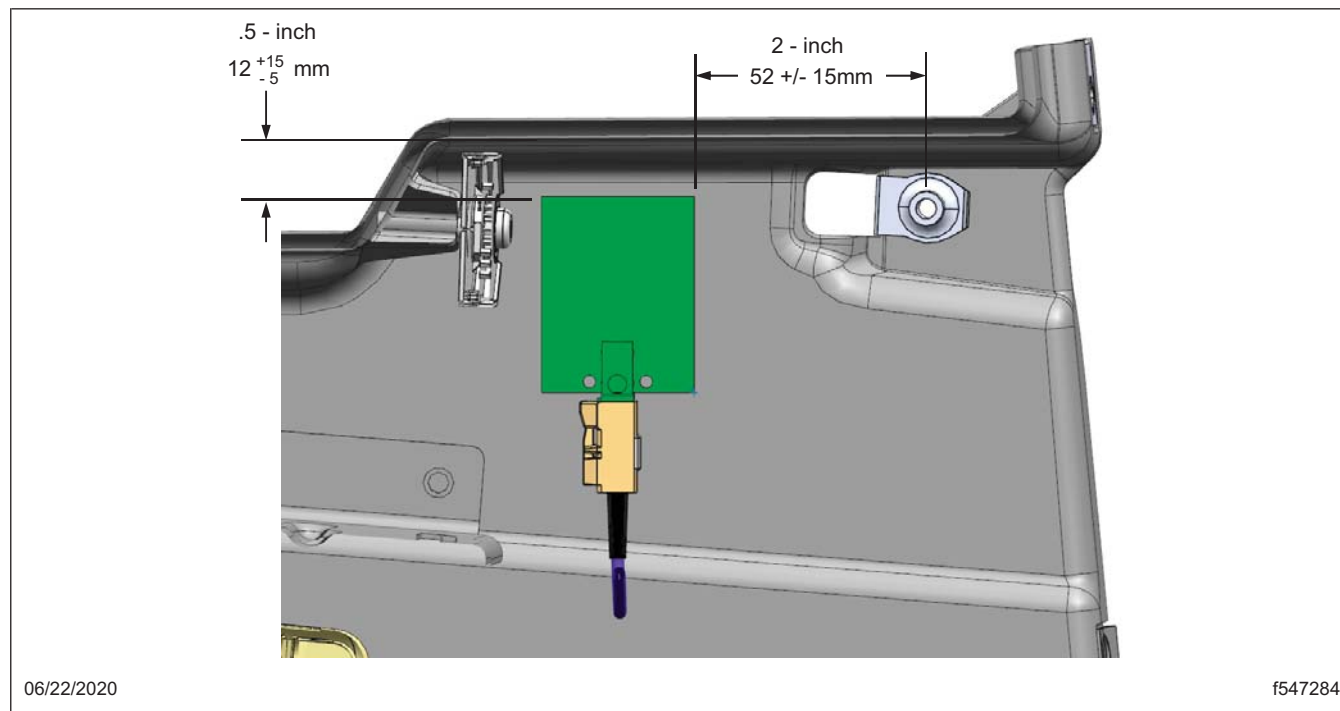

Fig. 7, WiFi Antenna Installation
- 20.2 Position the WiFi antenna to the right-hand inside of electronics bay, .5-inch (12-mm) from the top of the bay, and 2 inches (52-mm) to the left of the mounting nut. Use the adhesive backing on the antenna to secure it to the wall of the electronics bay. See Fig. 7.